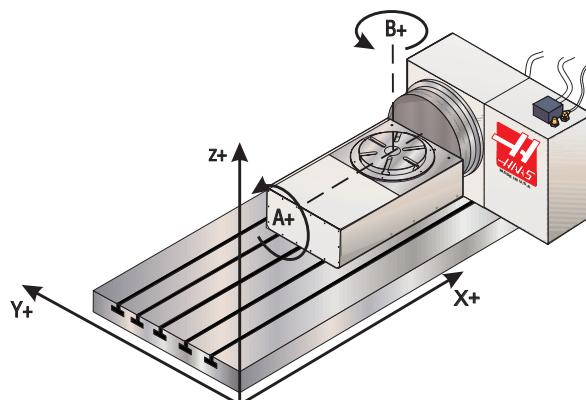

Fig. 11.6-1 Work coordinates (Positive direction).
The layout of the **A** and **B** axes on the HAAS five-axis control are depicted below. The **A** axis is rotary motion about the **X** axis, while the **B** axis determines rotary motion about the **Y** axis. The right hand rule can be used to determine axis rotation for the **A** and **B** axes. When placing the thumb of the right hand along the positive **X** axis, the fingers of the right hand will point in the direction of tool movement for a positive **A** axis command. Likewise, when placing the thumb of the right hand along the positive **Y** axis, the fingers of the right hand will point in the direction of tool movement for a positive **B** axis command. It is important to remember that the right hand rule determines direction of tool movement and not the table movement direction. For the right hand rule, the fingers will point opposite of the positive rotary table movement. Refer to Figures 11.6-1 and 11.6-2.
**NOTE:** Figures 11.6-1 and 11.6-2 represent one of many possible machine tool and table configurations. You may have different table movements for positive directions, depending on the equipment, parameter settings, or five-axis software being used.